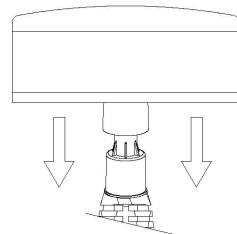

FIGURE 6
1. Place Scrub Pad over tip of Steam Jet Nozzle, and firmly press it on Steam Jet Nozzle as far as possible. (FIGURE 6)